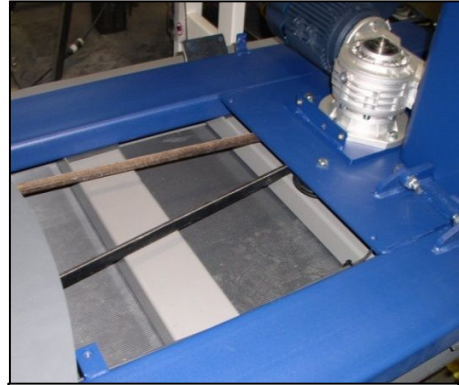

Figure 7.22
21. Attach the drive assembly to the base. Do not tighten the bolts (Figure 7.22).